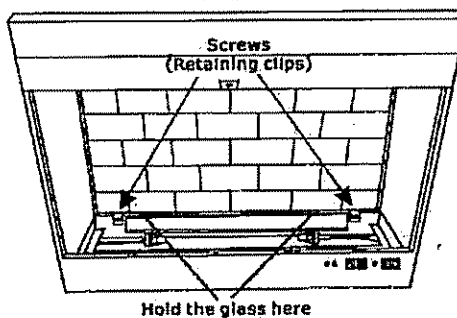

Figure 8
4. Locate the flame generation cylindrical drum. (Figure 8).